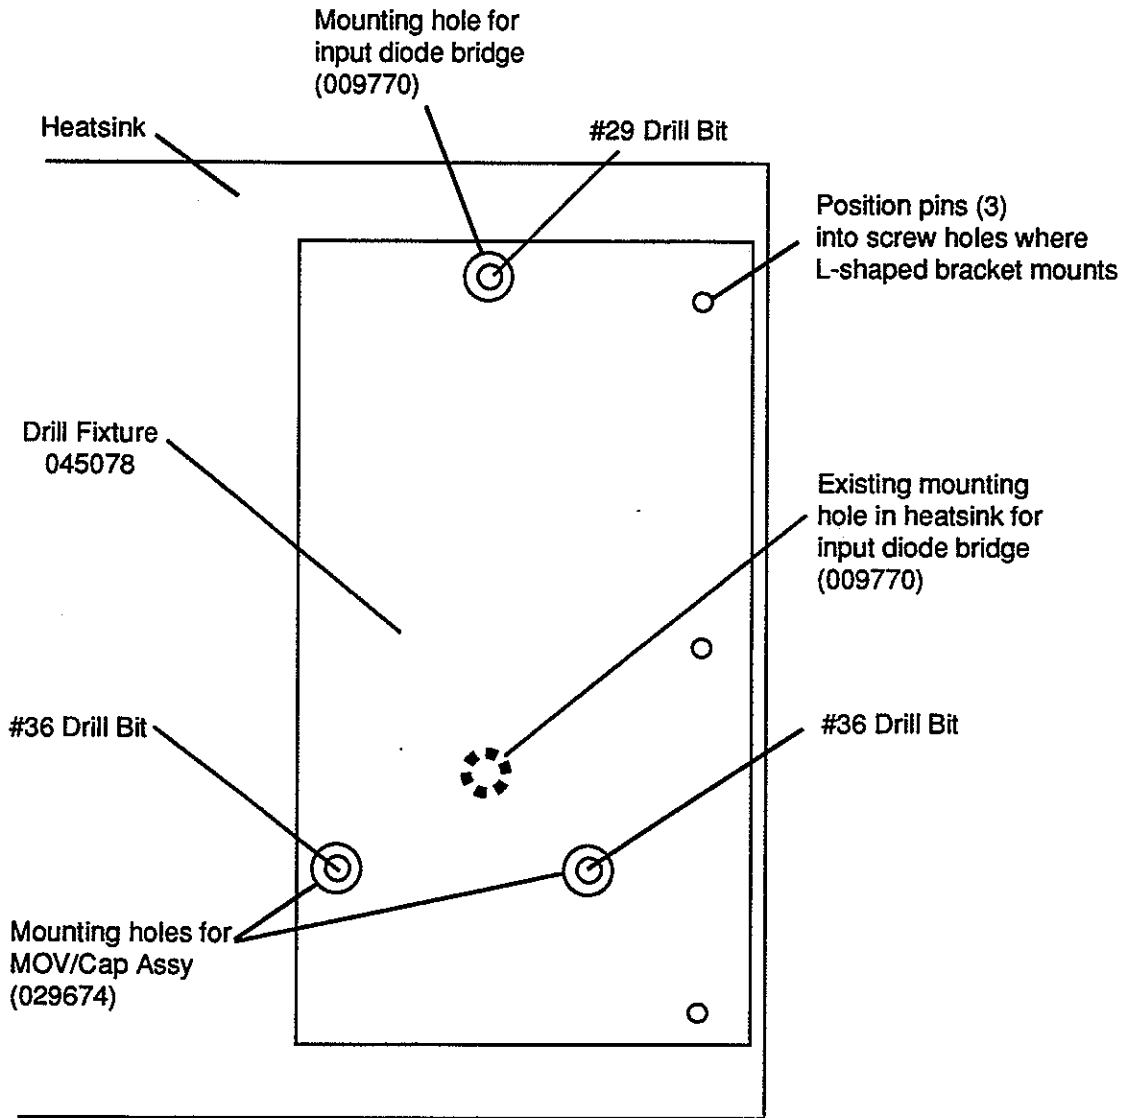

Figure 1 Drill Fixture 045079 Positioned on Heatsink
15. Attach drilling fixture (045079). See Figure 1